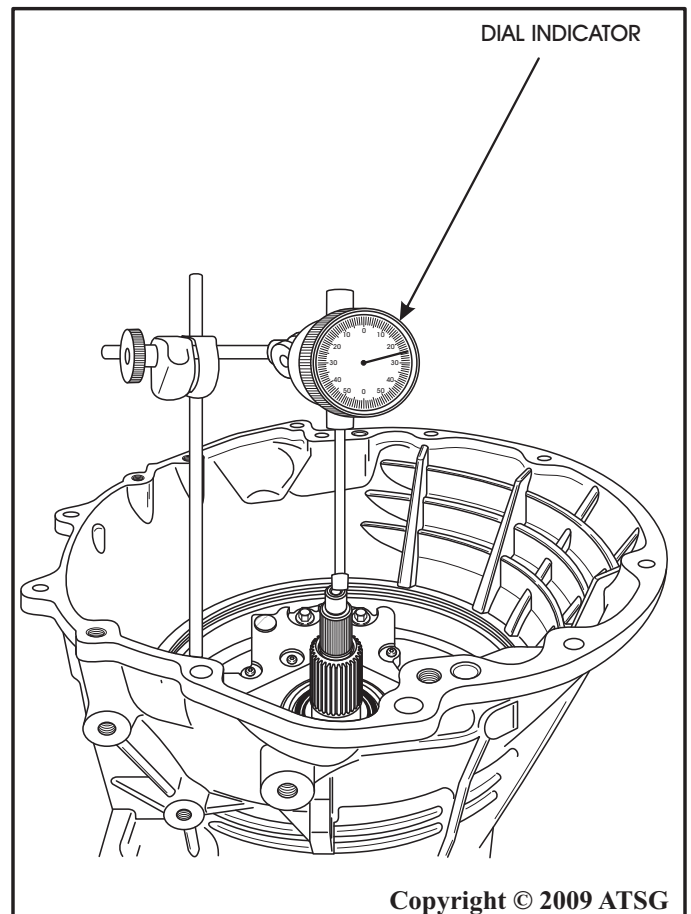

Figure 122
44. Install dial indicator and measure input shaft end clearance as shown in Figure 122. Correct end-play is 0.46-0.89 mm (.018"-.035").